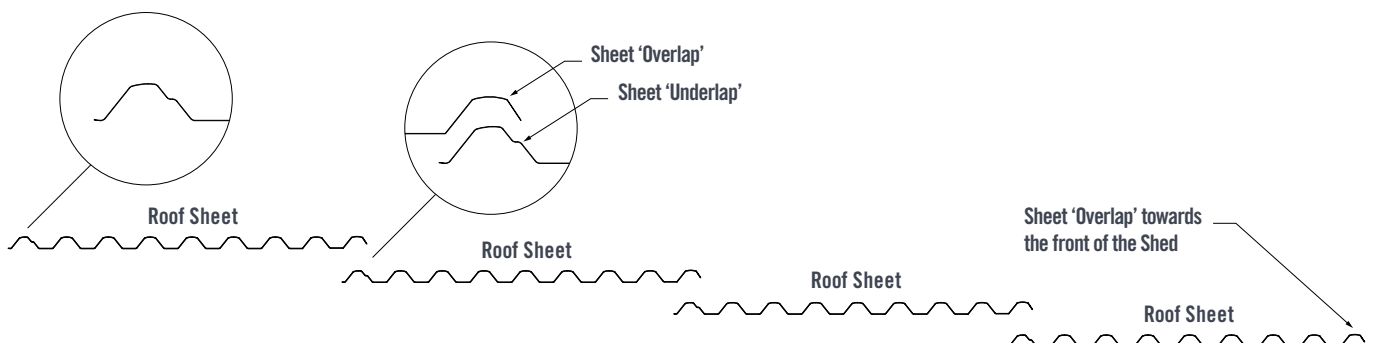
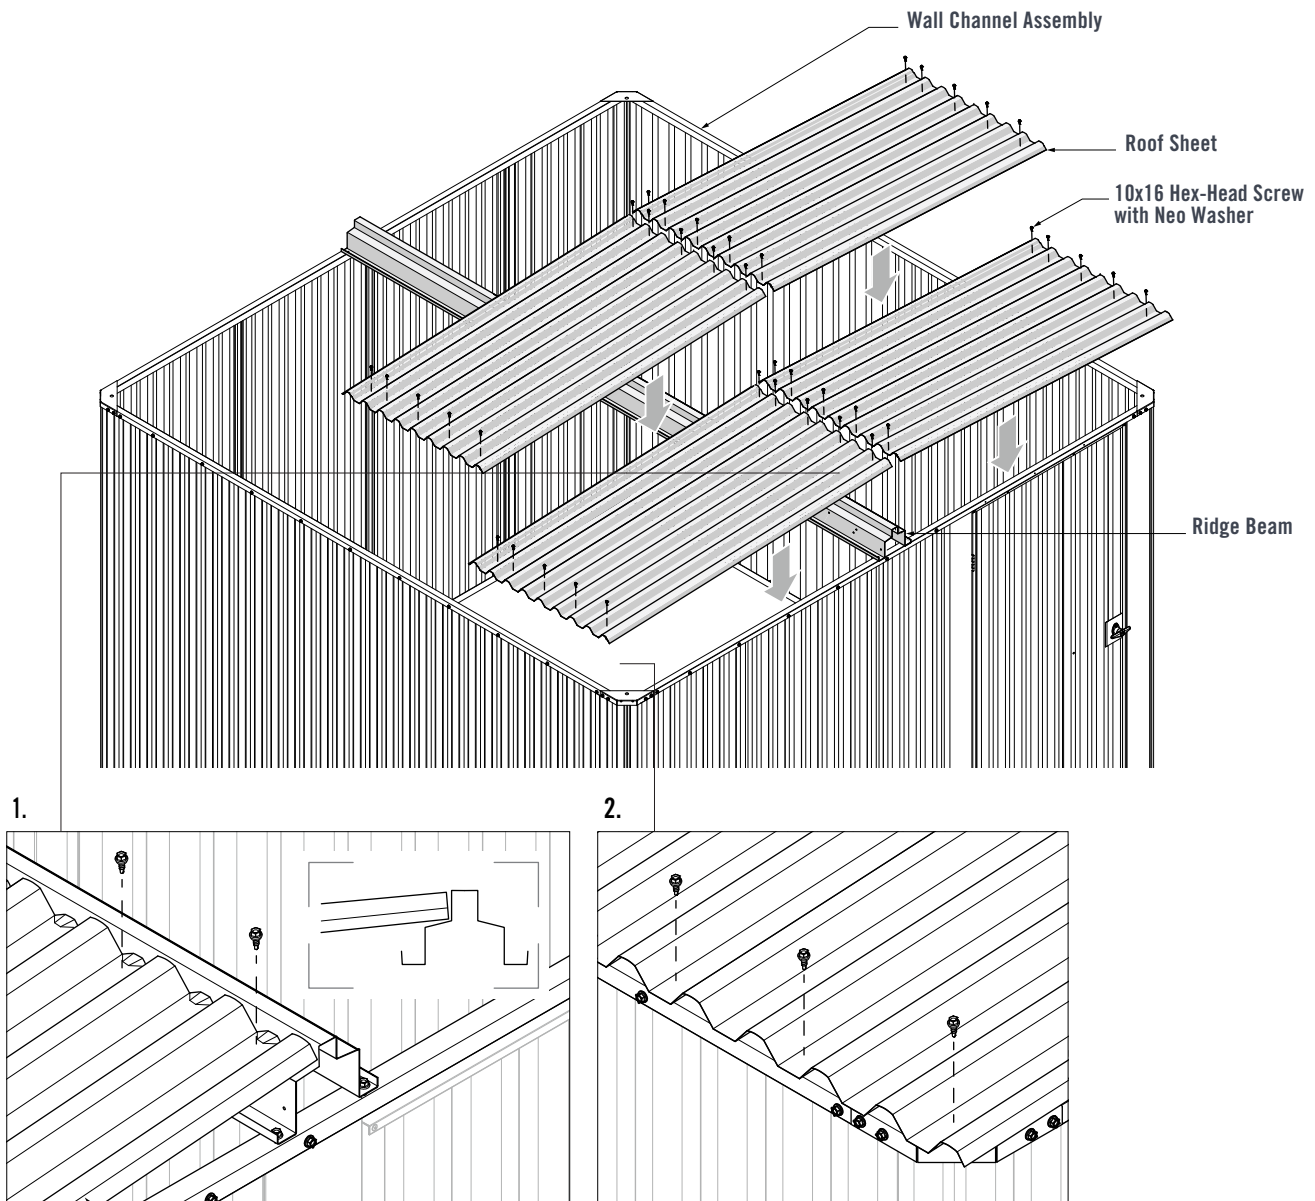
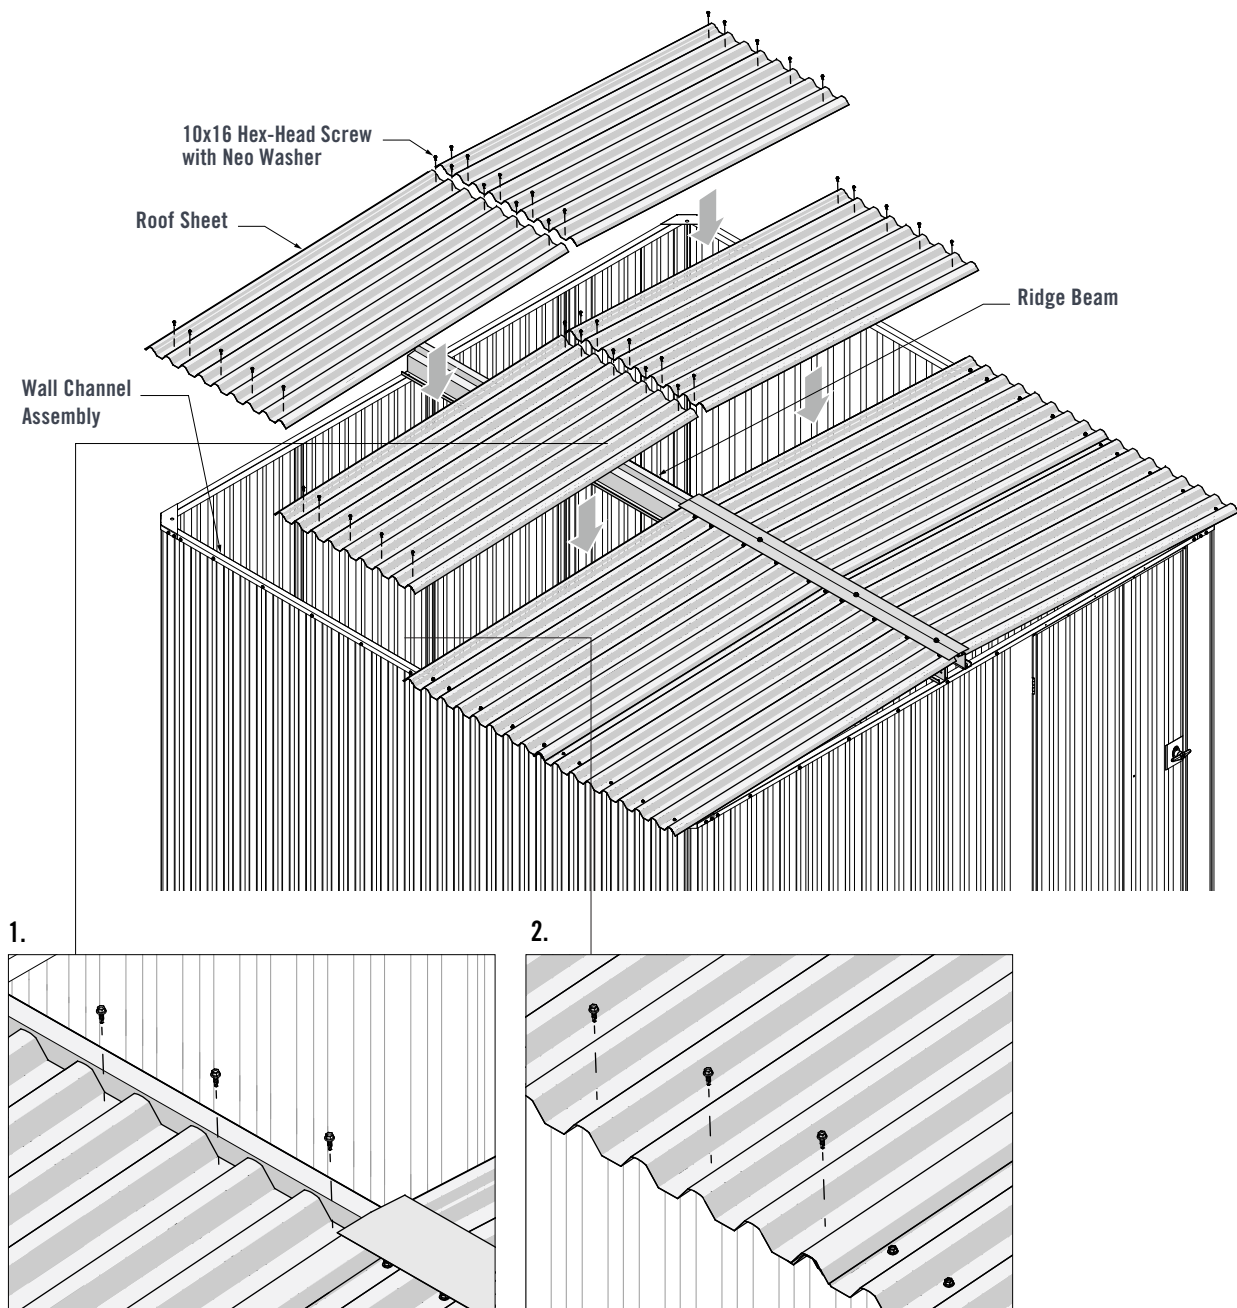

FIGURE 6.2
FIGURE 6.4
FIGURE 6.6
Refer to the sheet layout below when installing Roof Sheets (Figure 6.2).
Refer to Sheet layout in Figure 6.2. Lay a Roof Sheet onto the Ridge Beam and Wall Channel Assembly, ensuring the overlap end of the Roof Sheet is facing the front of the shed (Figure 6.4).
1. Ensure the end of the Roof Sheet is in-line with the end of the Ridge Beam. Fasten five 10x16 Hex-Head Screws with Neo Washers through the pans of the Roof Sheet and into the Ridge Beam (Figure 6.4).
2. Fasten five 10x16 Hex-Head Screws with Neo Washers through the pans of the Roof Sheet and into the Wall Channel Assembly (Figure 6.4).
Refer to Sheet layout in Figure 6.2. Lay the next Roof Sheet onto the Ridge Beam and Wall Channel Assembly, ensuring the overlap end of the Roof Sheet is facing the front of the shed (Figure 6.6).
1. Ensure the Roof Sheet is hard against the step of the Ridge Beam. Fasten five 10x16 Hex-Head Screws with Neo Washers through the pans of the Roof Sheet and into the Ridge Beam (Figure 6.6).
2. Fasten five 10x16 Hex-Head Screws with Neo Washers through the pans of the Roof Sheet and into the Wall Channel Assembly (Figure 6.6).